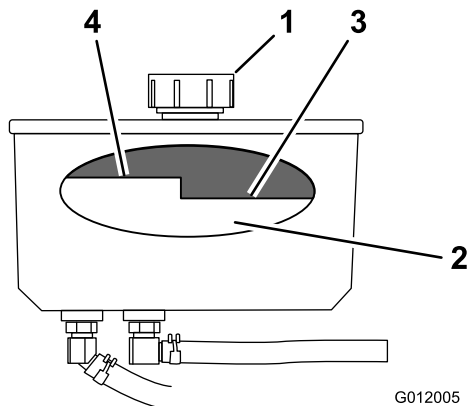

Figure 75
4. Clean the area around the cap and the filler neck of the hydraulic tank (Figure 75).
5. Remove the cap from the filler neck (Figure 75).
Note: The fluid level should be below the hot level of the baffle when the fluid is warm (Figure 75).